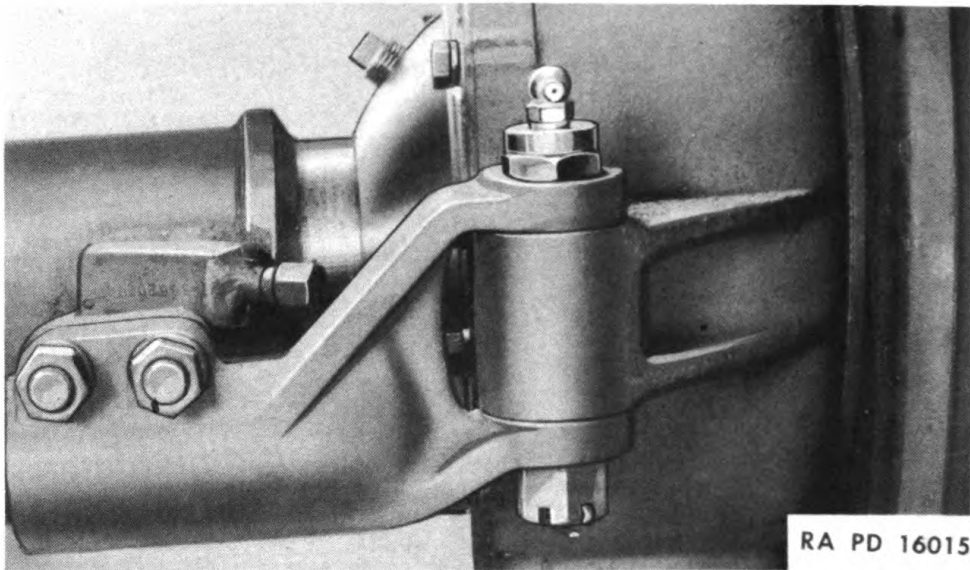

Figure 51—Tie-Rod End Construction
a. Tie-rod and tie-rod yokes may be removed from vehicle by removing tie-rod bolts from steering knuckle supports. No other parts are affected. See Fig. 51.
(1) Disconnect tie-rod